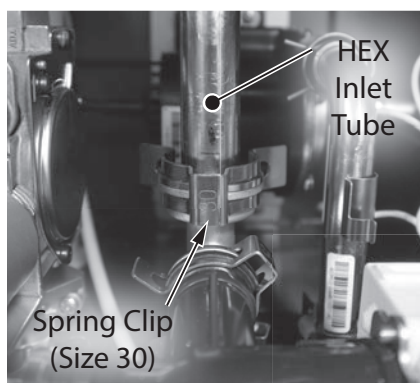

Figure 192 - Remove spring clip securing HEX inlet tube
- 16** Disconnect the spring clip (size 30) securing HEX inlet tube to outlet tee as shown in Figure 192.